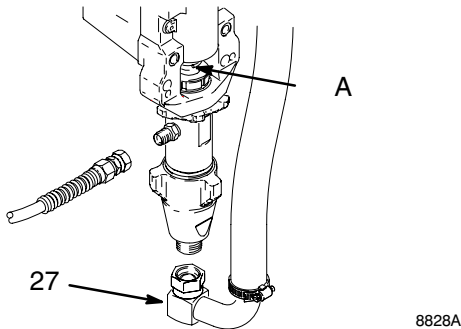

Fig. 16
1. Fig. 16. Flush pump.
3. Cycle pump until piston rod (A) is in its lowest position.
4. Remove suction/drain hose (27).